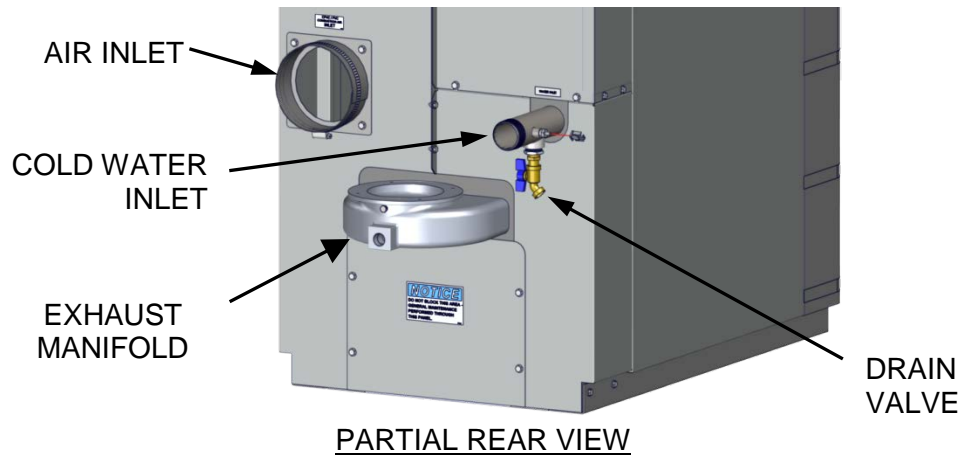

Figure 5-5. Water Heater Rear View Showing Air Inlet Location
12. At the rear of the unit, partially block the air inlet (Figure 5-5) with a plywood sheet or metal plate.